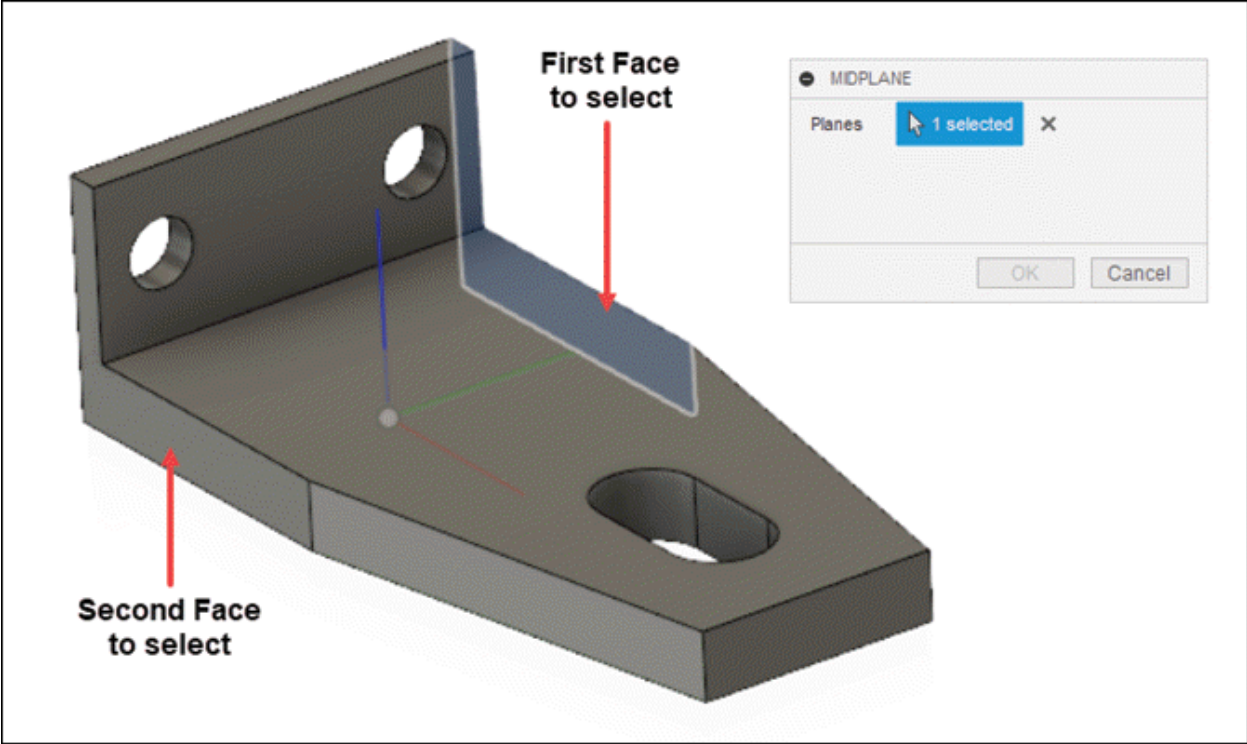

Figure-20. Face selection
- Select both the faces as shown in Figure-20.